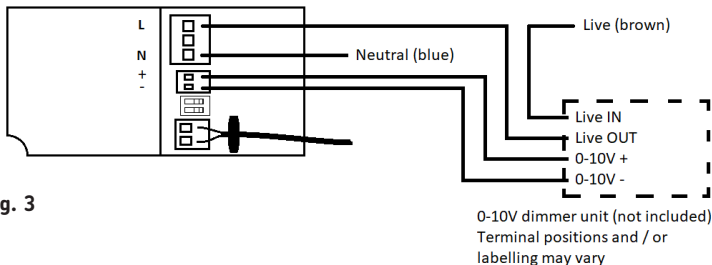

Fig. 3
- (0-10V dimmable driver SA3040RWAD only) Ensuring correct polarity is observed, carefully wire as shown in Fig. 3